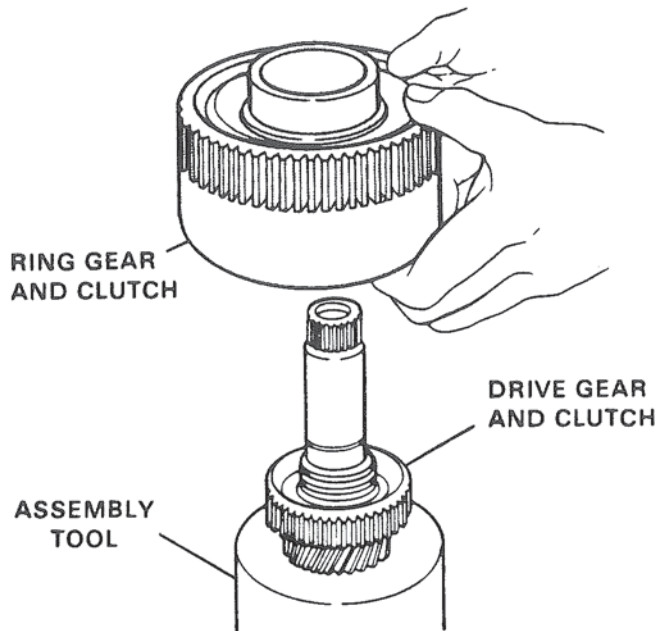

Figure 63. Assembling Ring Gear and Clutch Assembly Drive Gear.
1. With drive gear and clutch hub in assembly tool, place ring gear and forward clutch assembly over drive gear as shown in Figure 63.